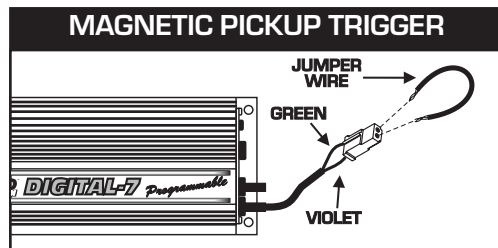

Figure 7 Checking for Spark with the Mag Pickup.
5. With a small jumper wire, short the MSD's Green and Violet magnetic pickup wires together quickly several times (Figure 7). Each time you break this short, a spark should jump from the coil wire to ground. If spark is present, the ignition is working properly. If there is no spark skip to step 6 below: